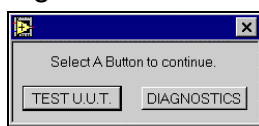

Figure 2
- 3.4. Click on **TEST UUT** to begin test. See Figure 2.